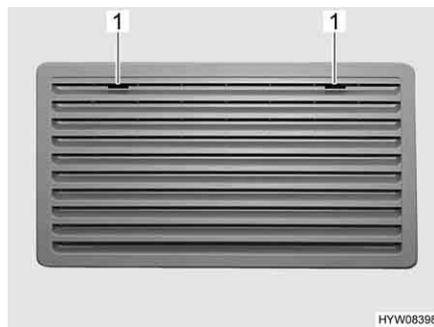
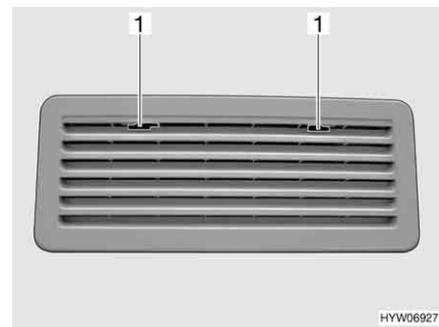

Fig. 232 Refrigerator ventilation grill (Thetford large)
Fig. 233 Refrigerator ventilation grill (Thetford small)
- Move the locking device (Fig. 232,1 or Fig. 233,1) to the middle.